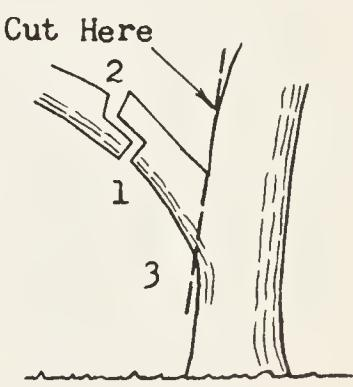

Figure 7
4.3 When removing a large limb, first undercut about one foot from where the finished cut is to be made. This will prevent splitting and tearing the wood and bark of the trunk. Next cut from above, and last, remove the stub. These steps are shown in Figure 7 of Exhibit A. When removing large overhanging limbs, it is advisable to rope the limb to a higher part of the tree so that in falling it will not drop into the wires.